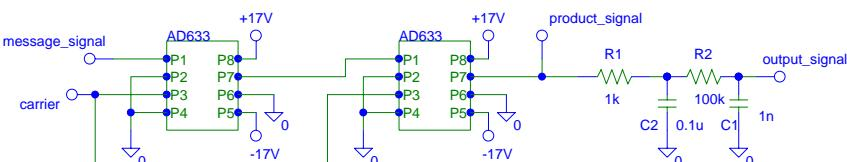

Fig. 2 Coherent demodulation of DSB signals
1. Keeping the power supply off, assemble the circuit of Fig. 2. Use FG1 as the message signal and FG2 as the carrier signal. Set the following parameters in FG1: Amplitude=5 V, Frequency=500 Hz, sine wave. For FG2: Amplitude=10 V, Frequency=9 kHz, sine wave. Connect channel 1 probe of the oscilloscope to observe the product signal (at pin 7 of the second AD633), and the channel 2 probe to the output of the filter to observe the recovered message signal.
4. Observe from plot P3 that the envelope of the product signal has the shape of the message signal, which is recovered as the output signal in plot P4. Plot P5 shows that the message signal is a triangle wave, however plot P6 shows a recovered signal that resembles more closely a sine wave, (a) explain why a triangle wave was not recovered. [2]. (b) What modifications should be made to the circuit of Fig. 2 in order to recover the triangle wave? [2].
5. Plot P7 shows the output signal $y(t)$ when $\Delta f = 0$ and $\theta = 0$. Estimate its peak amplitude (in volts). Using Eq. (6) and the value of the phase offset θ you measured during the lab, (a) calculate the peak amplitude of the output signal when it is affected by the phase offset in the local carrier. [2]. Plot P9 shows the output signal affected by a phase offset, (b) estimate the peak amplitude of this signal and compare it with the theoretical value just found. [2].